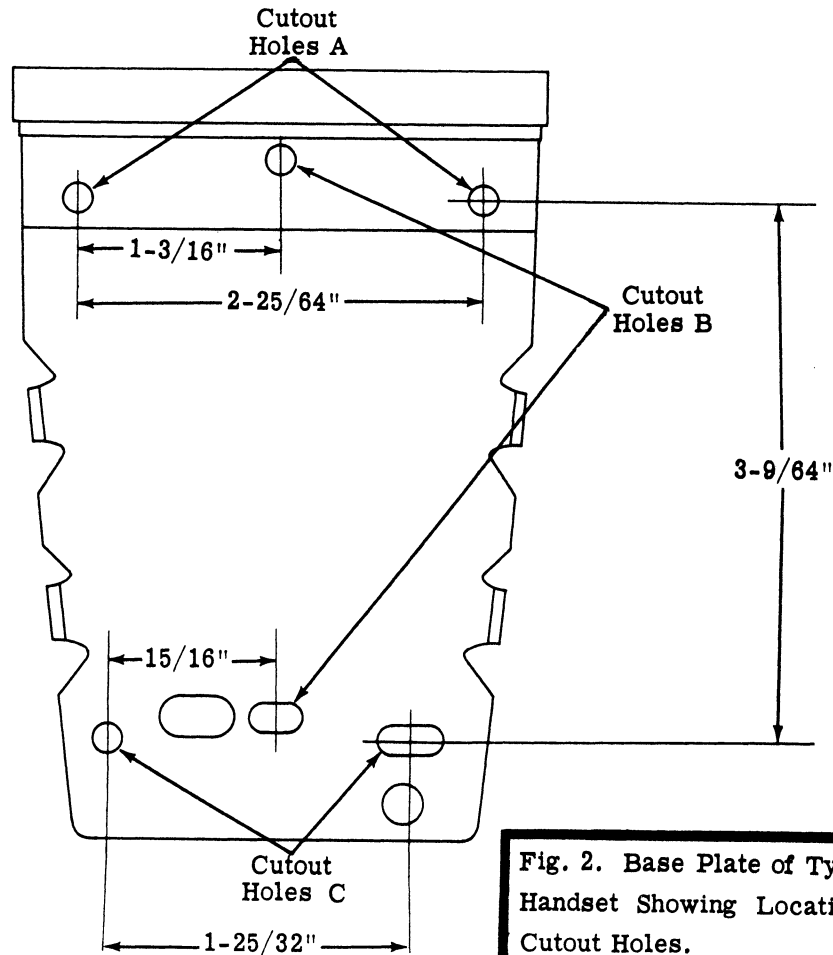
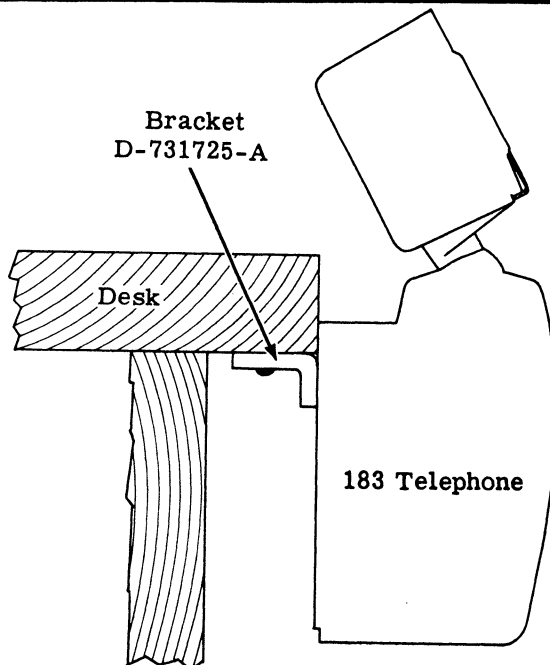

Fig. 2. Base Plate of Type 183 Handset Showing Location of Cutout Holes.
Fig. 3. Type 183 Handset Attached to Desk.
3.03 For mounting in this position, the base plate has two cutout holes (marked A in Fig. 2). With two screws, mount the base plate on the side of the desk.
3.04 When using mounting bracket D-731725A, use cutout holes marked A in Fig. 2. Use the two #8-32x1/4 screws supplied with the bracket. Insert the screws inside the telephone and screw into the bracket. Tighten screws securely and attach bracket to desk with two screws. See Fig. 3.
3.05 For mounting the 183 type set on a wall or other flat surface use four cutout holes marked A and C in Fig. 2, and four screws.
3.07 When masonry anchors or toggle bolts are to be used, the mounting hole spacing dimensions shown in Fig. 2 will give the drilling layout.
3.08 If the type 183 telephone is to be mounted to an electrical outlet box, cutout holes B in Fig. 2 are used.